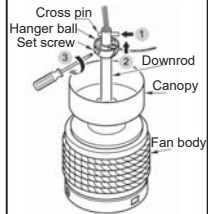

Fig.9
Step 5: Reinstall the hanger ball onto rod being sure that cross pin is in the correct position, set screws are tighten and wires are not twisted. (Fig.9)